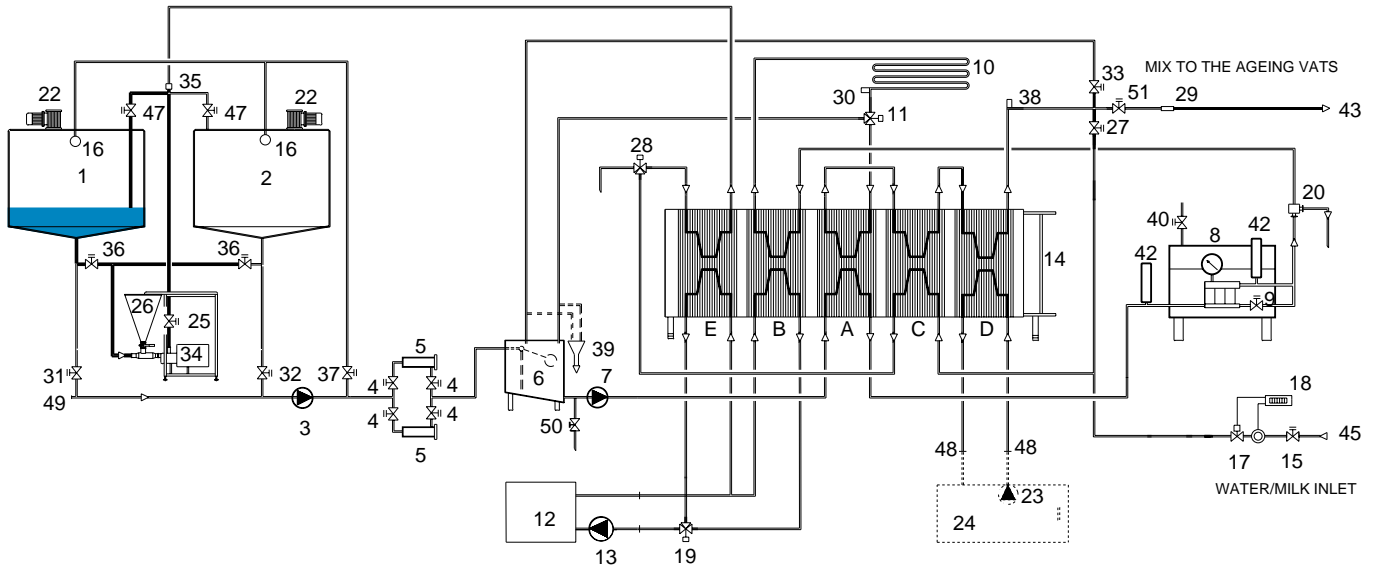

Fig. 7.5
14. Wash the mixer pipes by sending the washing solution to either tank (1) or tank (2), opening the relative valve (36) and keeping the drain valves on tanks (31, 32 and 36 of the unused tank) closed. This will allow the solution to flow through the powder feeder (see Fig. 7.5). Start pump (34) for the minimum washing time, around 5 minutes, and then close previously opened valve (36). Wait until no more liquid
- comes out of the feed pipe. Switch off pump (34).
15. Switch off pump (3) and drain the washing solution from the circuit by removing plug (49).